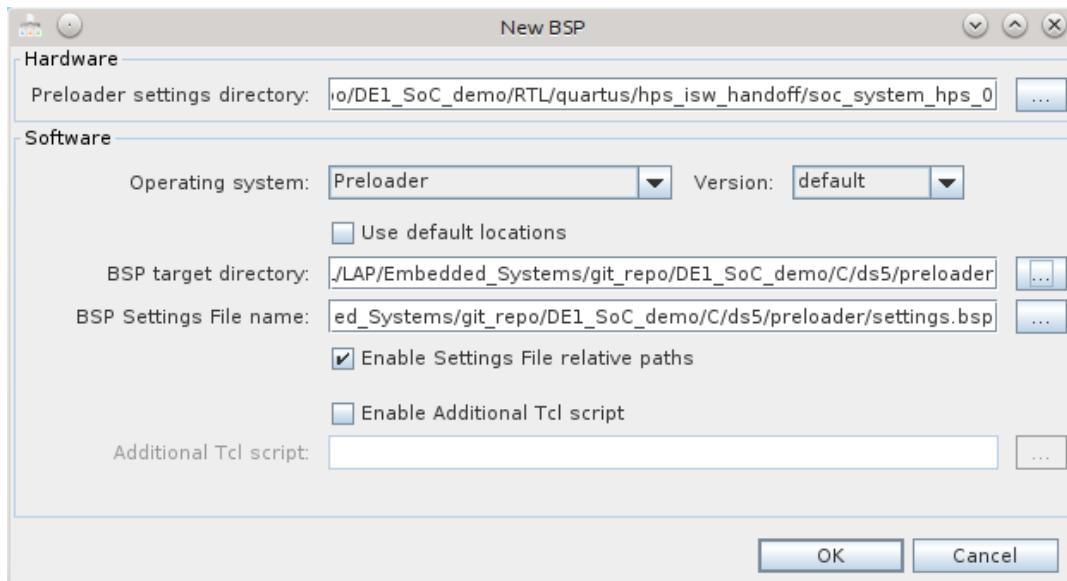

Figure 8-26. New BSP Dialog
- Disable the “Use default locations” checkbox and under the “BSP target directory”, select the “DE1_SoC_demo/C/ds5/preloader” directory. You should have something similar to Figure 8-26.